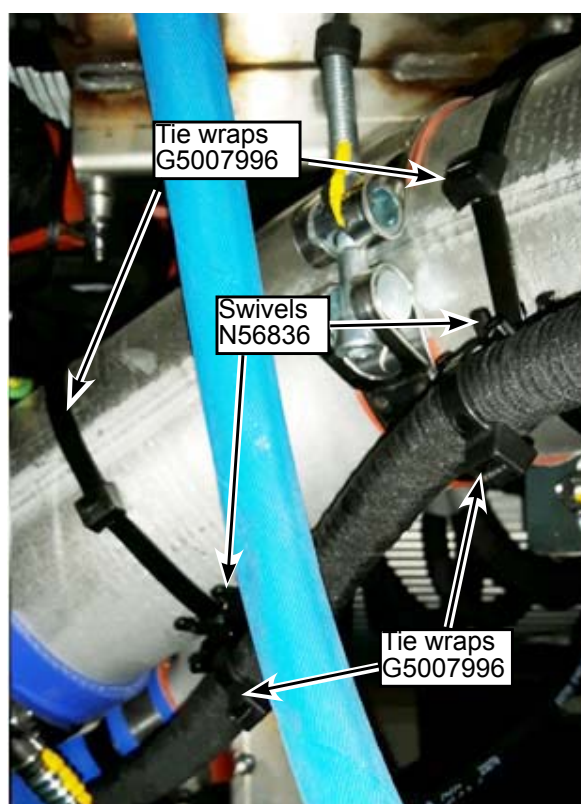

Figure 11 - Attach Wire Kit to the CAC Pipe
1.12. Attach the wire kit to the CAC pipe with four tie wraps G5007996 and two swivels N56836 (see Figure 11).